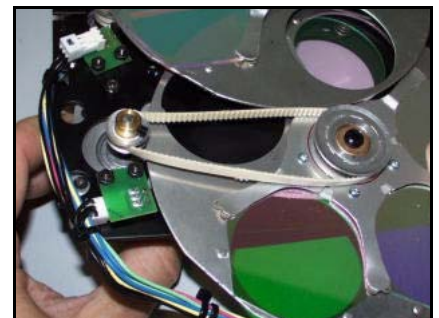

Fig. 24. Release belt tension
- 2 Release belt tension and slip the belt off the motor gear. (Fig. 24.)